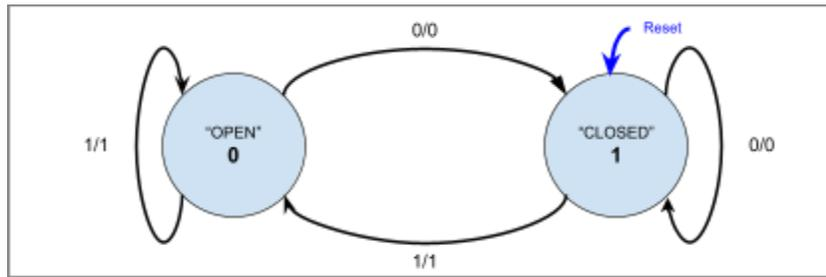

Figure 2: Simpler Automatic Door State Diagram
- Figure 2 is a simpler (and more common) way to draw an equivalent FSM.
Table 1 is a direct translation of the state diagram in Figure 2. First, note that our “Truth Table” is now called a “State Table.” Also, notice that there is an input column “Movement” and an output column “DoorOpen” for our input and output signals respectively. The “Present State” input column refers to our state encoding: 0 for “Open” and 1 for “Closed.” So what does each row in Table 1 mean?